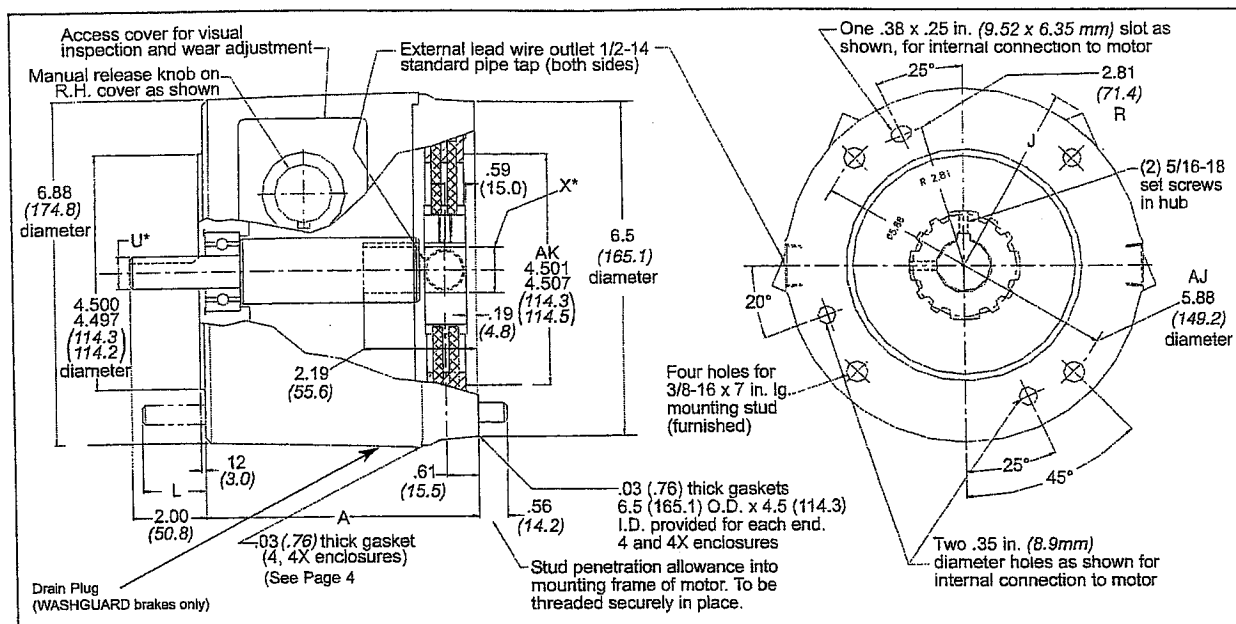

Figure 1
- 7 A. Slide housing and shaft assembly onto mounting studs, rotating shaft until keyway is aligned. Be sure housing is assembled with access windows in same position as shown in Figure 1, page 1.